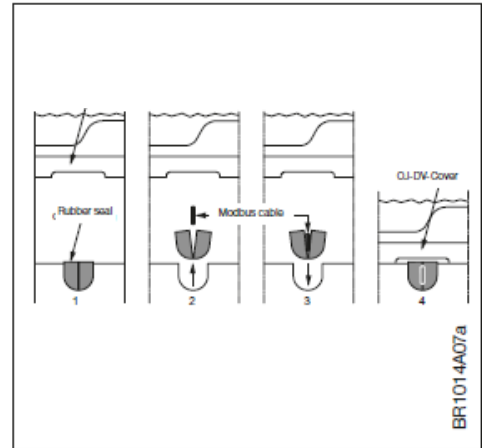

Fig. 3-8:
- If Modbus communication is based on 6-core, unshielded, 30 AWG/0.066 mm² telecommunication cable, the cable must be inserted through the purpose-moulded rubber seal. See fig. 3-8.
- The rubber seal has a cut insertion slit and assure the product enclosure rating if properly fitted. See fig. 3-8.